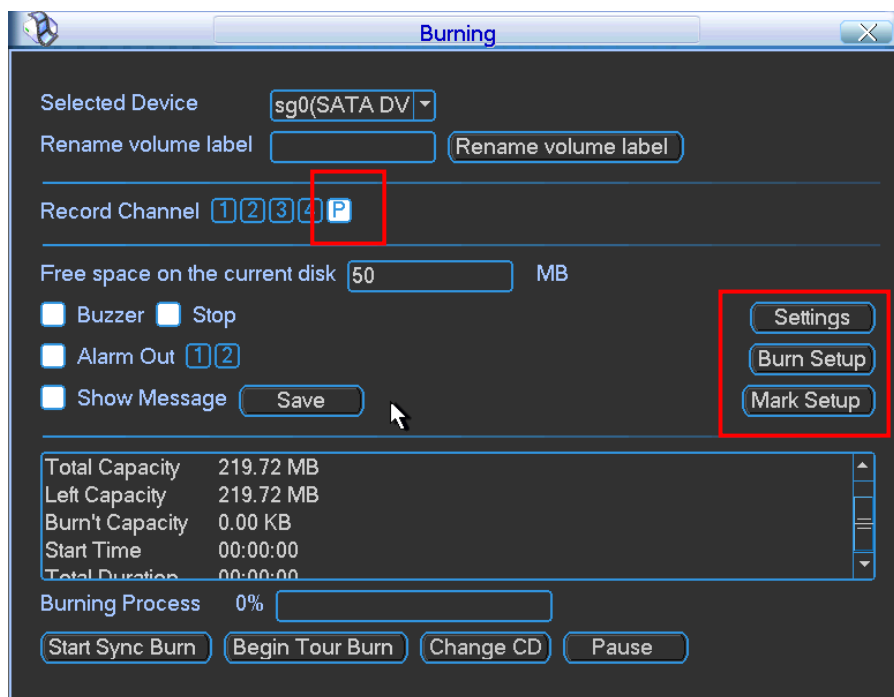

Figure 2-22
- One the preview interface, right click mouse and then select real-time burning. You can see an interface shown as in Figure 2-22. **Please note the record channel needs to set as P (PIP), otherwise, you can not see the three setup buttons on the right pane.**
- On the left-click mouse menu, select main menu and then click Backup button. Click Burning button, you can go to Figure 2-22 too.
d) Now you can click Start Sync burning on Figure 2-22 to begin burning.